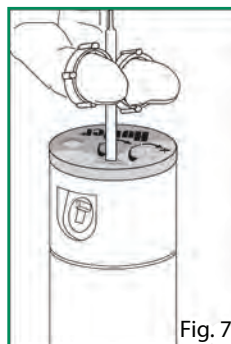

Fig. 7
1. Insert the plastic key end of the Hunter® wrench into the lifting socket of the sprinkler and turn  $90^\circ$ . Pull the riser up to gain access to the nozzle socket (Fig. 7).